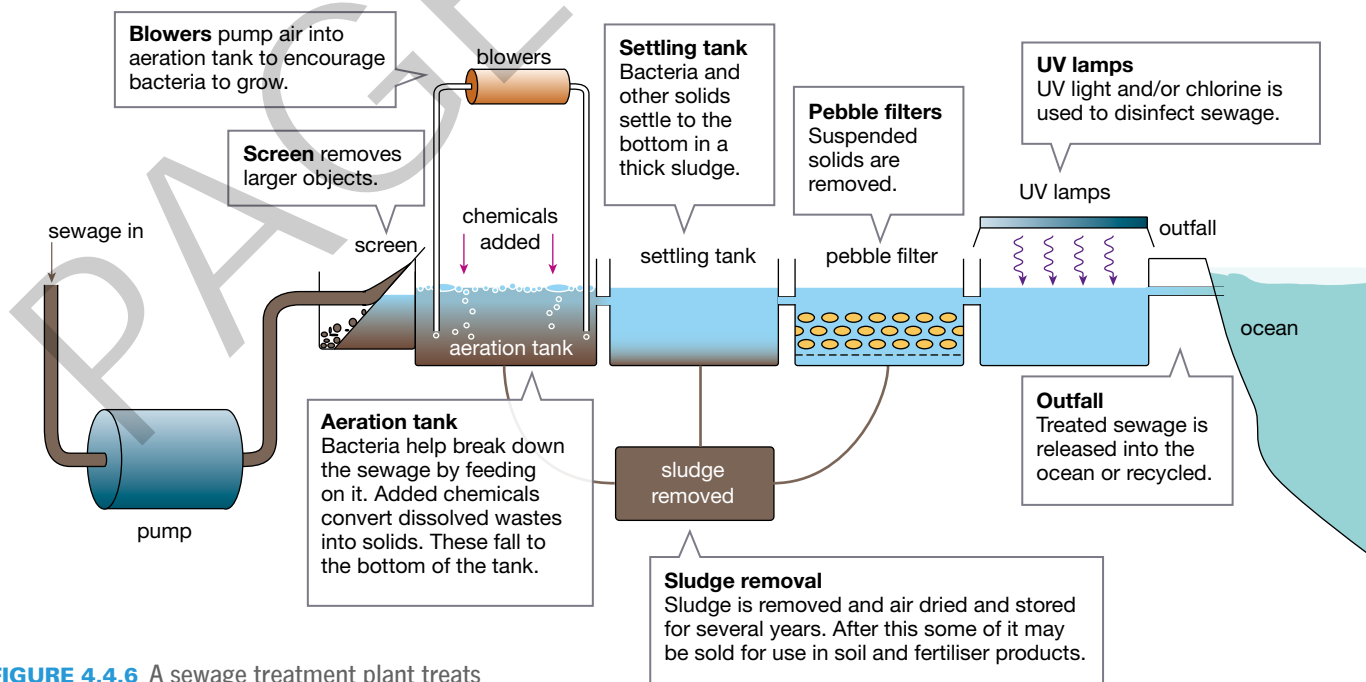

FIGURE 4.4.6 A sewage treatment plant treats sewage in a process involving several steps.
Most homes and businesses in cities are connected to the sewerage system. This is a system of underground pipes that carry blackwater and greywater away to a waste treatment plant. This plant then makes the water safe enough to pump into the ocean or to be used to irrigate crops and vegetable gardens. A typical sewage treatment plant is shown in Figure 4.4.6 on page 169.
- Identify four separation methods used in the sewage treatment plant in Figure 4.4.6 on page 169.